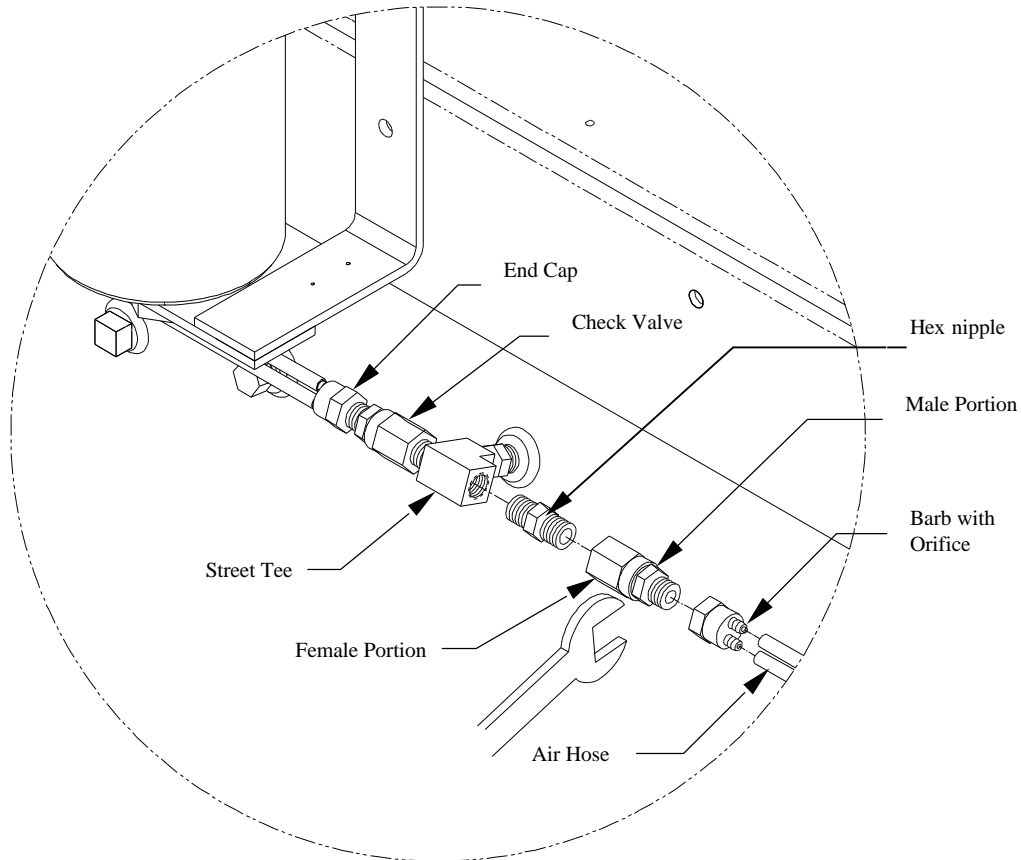

Figure 4
- A check valve is installed between the purge tank and the main air pressure in the storage tank. This check valve allows the purging of the drying module and the purge tank while maintaining system pressure in the main tank (figure 4).
- The check valve is mounted on the main tank under the drier assemblies on the backside near the center (figure 4).
- To remove the check valve, label the “Top hose” and “Bottom Hose” and remove the air hoses that are connected to the end cap. Be careful not to damage the barbs when removing hoses. When unscrewing the end cap, a wrench must be placed on the male portion of the check valve to keep it from rotating (figure 4).
- To unscrew the check valve, place a wrench on the female portion of the valve and rotate it (figure 4). You may need to hold the hex nipple on one side to prevent it from loosening.
- To install the new check valve, clean threads on the male part of the tee. Apply a small amount of Loctite[®] 242 on the threads. Install the check valve, place the wrench on the female portion of the valve and rotate (figure 4).